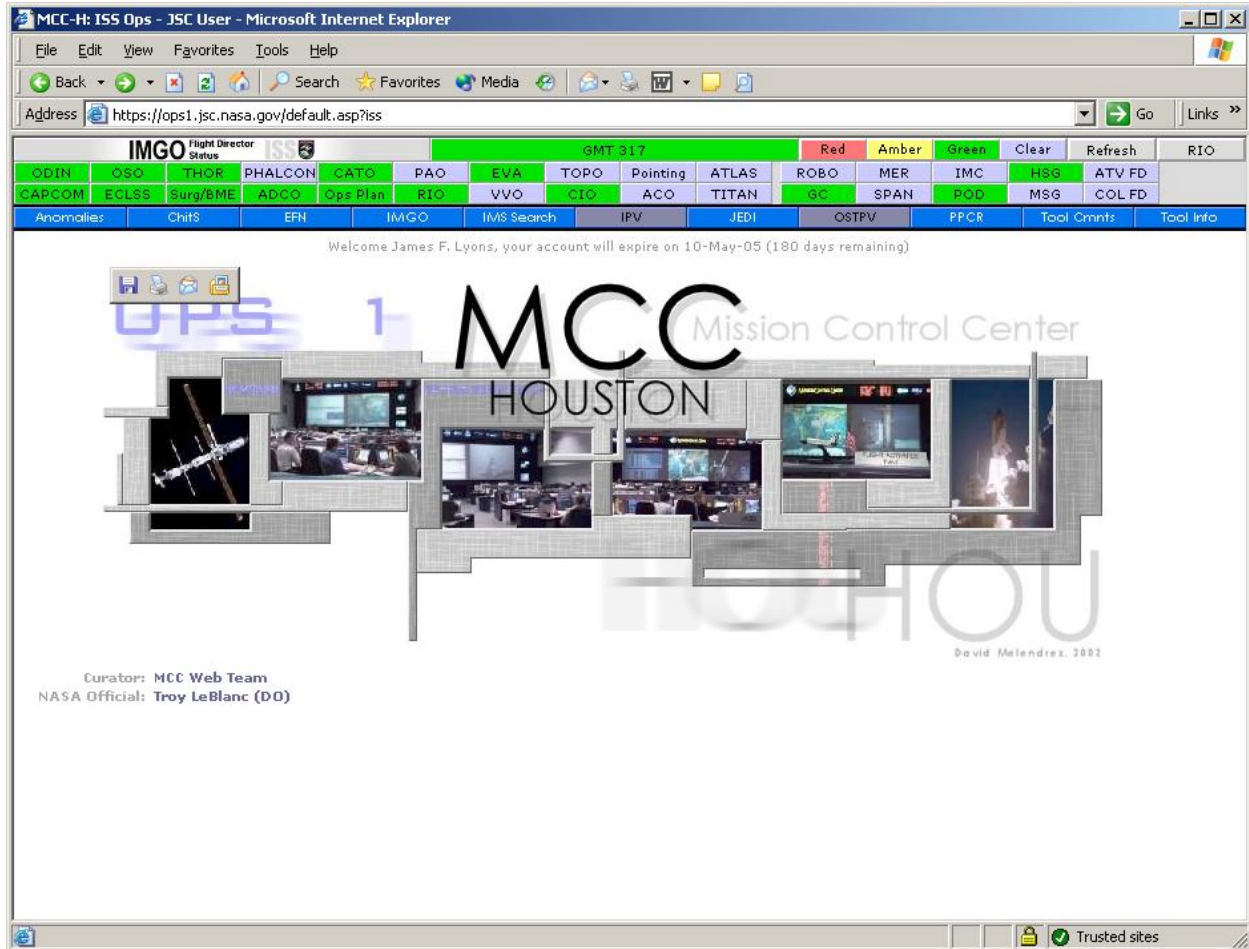

Figure 4-70. IMGO application running
3. Click **OK**. This brings up the window shown in Figure 4-70.